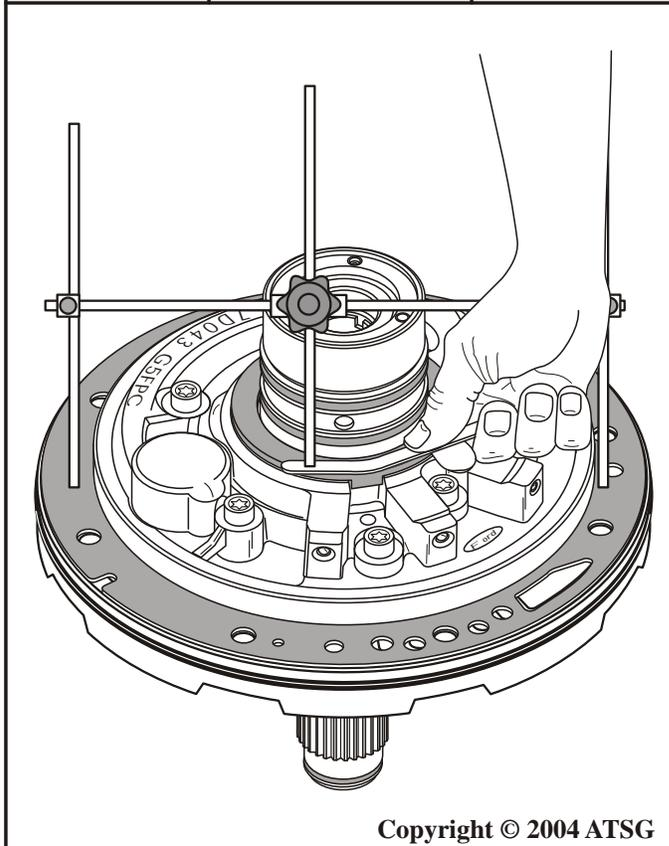

Figure 166
- 50. Install pump gasket onto the pre-assembled oil pump, as shown in Figure 166.
- 51. Place the "H" gauge with the previously set center rod onto the oil pump in the opposite direction, with the center rod placed over the selective washer, as shown in Figure 166.
- 52. Measure with a feeler gage between the center rod and selective thrust washer, as shown in Figure 166.